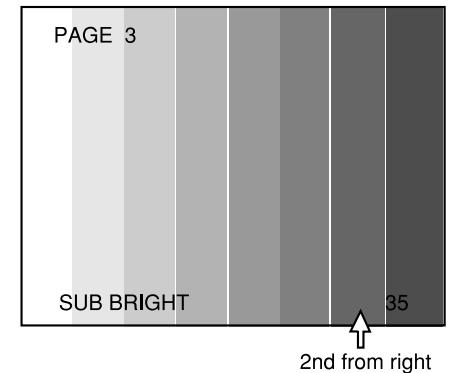

Fig. 3-1
1. Using the volume keys on the jig remote controller, adjust the scale of the second last from right to be slightly brightened. (Fig. 3-1)